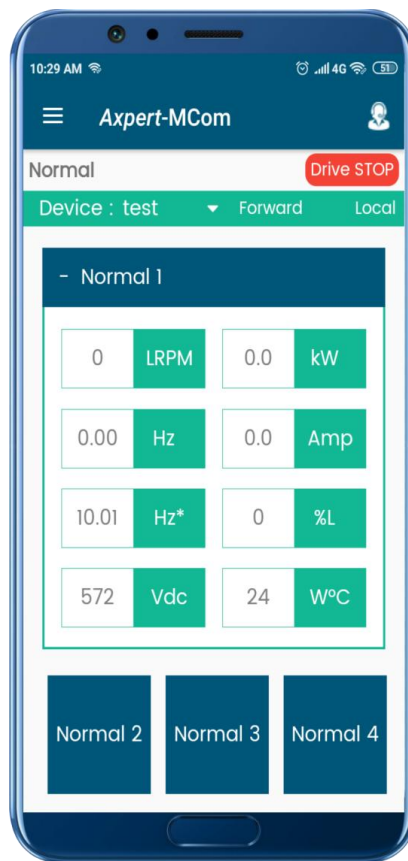

Figure 14a: Normal Screen
- Normal Screen will be displayed with the current status on the top left corner. (Figure 14a).